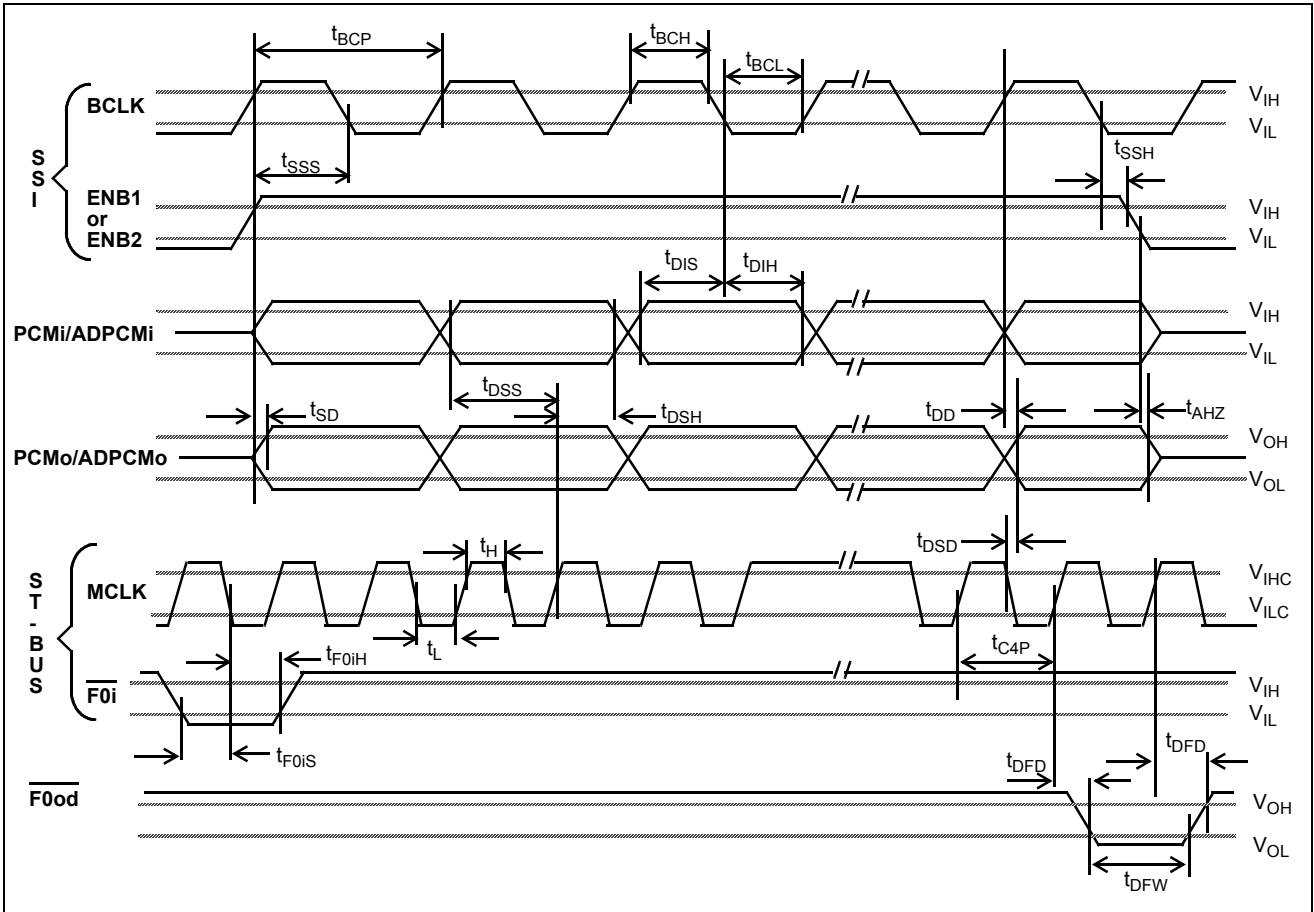

Figure 14 - Serial Port Timing
**AC Electrical Characteristics† - Serial PCM/ADPCM Interfaces (see Figure 14)**